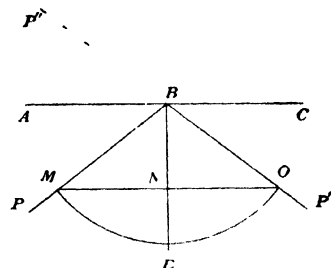

FIG 87
**I. To prove that the angle of incidence equals the angle of reflection.** (a) Blacken one side of a strip of plate glass or a microscope slide, attach it by means of a rubber band to a small wooden block, and then set it on edge so that the line  $AC$  (Fig 87), drawn on a sheet of paper, coincides with the plane of the unblackened face. The rear face is blackened in order to prevent reflection from that face and enable one to work with the light reflected from the front face alone. Set a pin at a point  $B$  against the face of the glass. Set another pin at any point  $P$ , and then, placing the eye so as to sight along  $B$  and  $P''$ , the image of  $P$ , set a third pin  $P'$  somewhere in this line of sight. Remove the glass plate, and with a protractor or a pair of dividers construct a perpendicular  $BE$  to  $AC$  at the point  $B$ . Draw  $PB$  and  $P'B$  and measure the angle of incidence  $PBE$  and the angle of reflection  $P'BE$  with the protractor. If a protractor is not at hand, draw an arc with  $B$  as a center, cutting the lines  $PB$  and  $P'B$  at  $M$  and  $O$ , and measure the lines  $MN$  and  $ON$ .